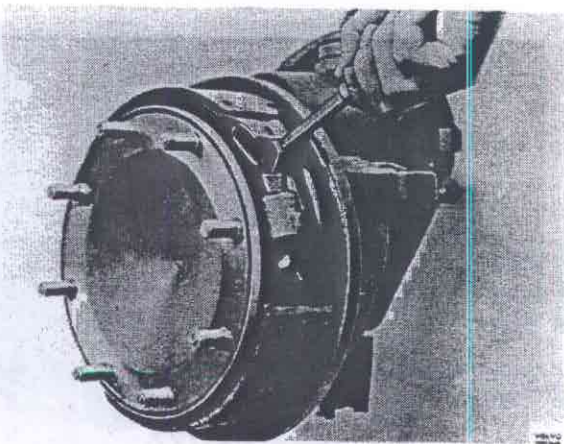

Fig. 51-5. Removing the brake shoes
5. With a screwdriver or torque wrench lift the brake shoes out of their grooves in the cylinder housing, Fig. 51-5.